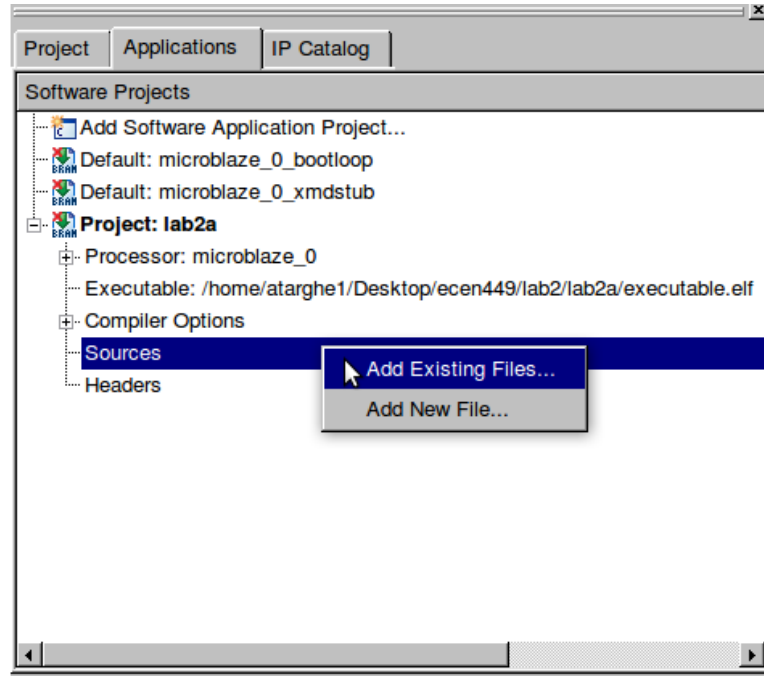

Figure 10: Add Source File to lab2a
- (d) Expand 'lab2a' and right click on 'Sources' and select 'Add Existing Files' (Figure 10). Add the source file we just created and click 'OK'.